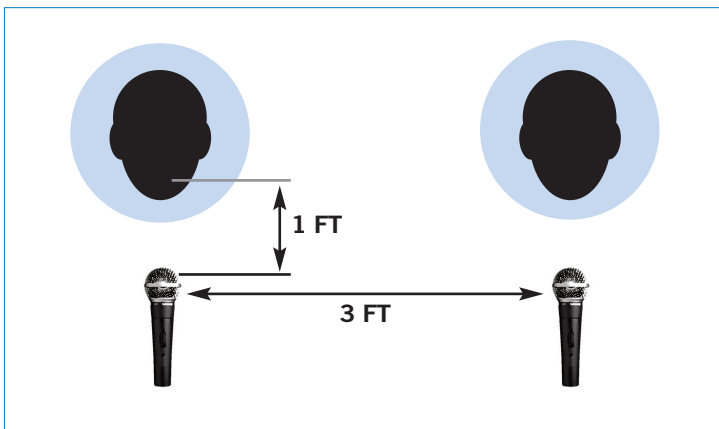

Figure 8: 3-to-1 rule
- When multiple microphones are used, the distance between microphones should be three times the distance from each microphone to its intended sound source. This prevents comb filtering, an unpleasant, hollow sound created when two or more microphones pick up the same sound source. This technique is known as the **3-to-1 Rule** (see figure 8).